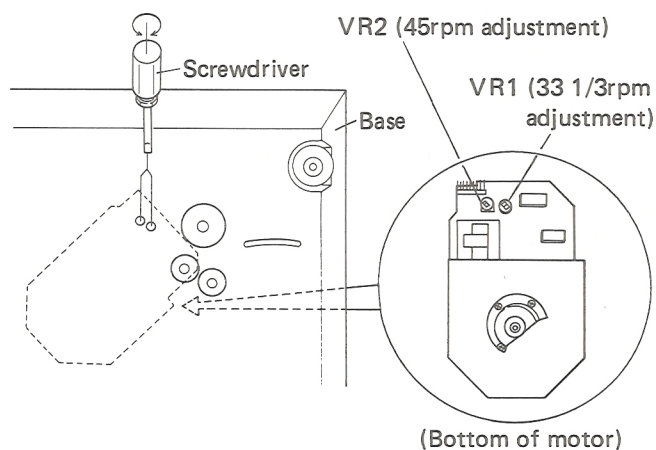

Fig. 11-3 Motor adjustment
3. Adjust the semi-fixed resistor on the motor control assembly so that the strobo stops. (Fig. 11-3)